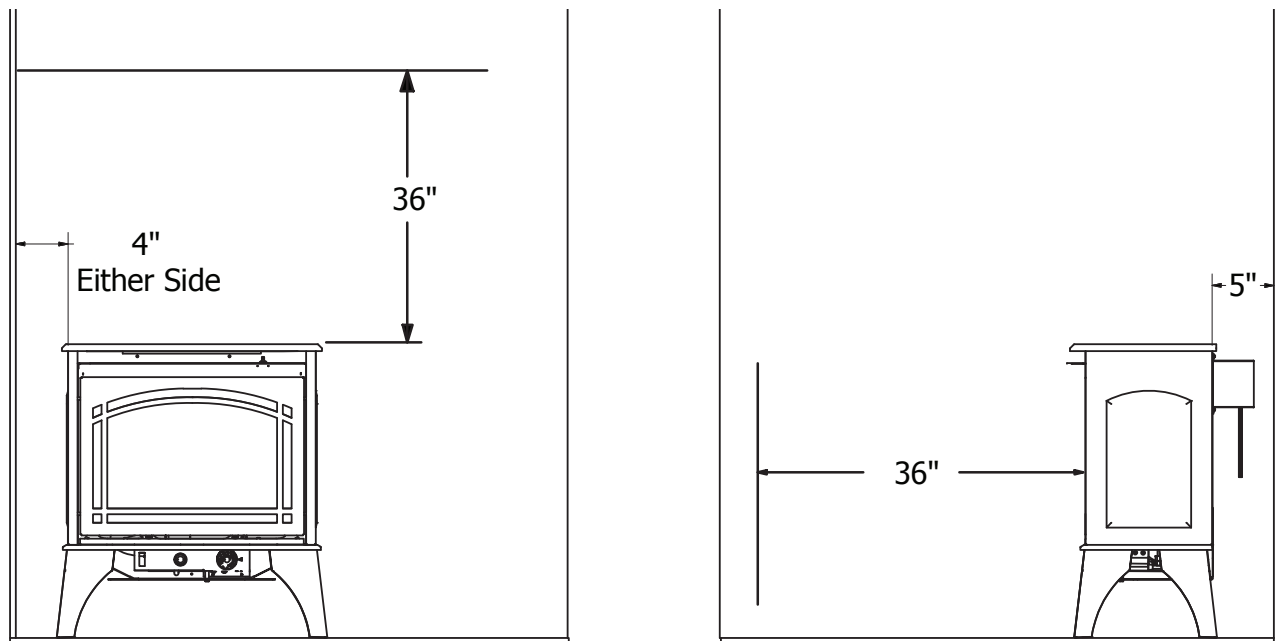

Fig. 6 - Minimum Clearance to Combustible Material
IMPORTANT: Maintain the minimum clearances shown in Figure 6 on page 11. If you can, provide greater clearances from floor, ceiling and joining wall.
A. Clearances from the side of the heater cabinet to any combustible material and wall should follow diagram in Figure 6.